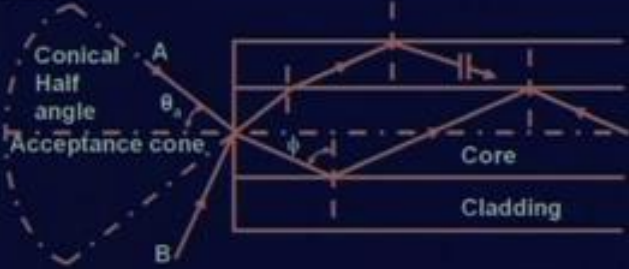

Fig. 2 The acceptance angle θ_a when launching light into an optical fibre.
- The geometry concerned with launching a light ray into an optical fibre is shown in Fig. 2, which illustrates a meridional ray A at the critical angle ϕ_c within the fibre at the core-cladding interface.
Acceptance angle look like this, you see the what is the acceptance angles? What is the numerical aperture? These are the basic definitions of the optical fibre. This we will discuss in this particular lessons at the beginning of this lesson. Now, the geometry connected, concerned with launching a light ray into an optical fibre is shown in figure 2. which is which illustrates a meridional ray A at the critical angle ϕ within the fibre at the core cladding interface right, see it is you see that here if you look at...
What is the, this the figure 2 you see, it is a is a conical half angle this is the θ_c . So, θ_c is a I mean, because we must know, what is the, what is the maximum value of θ_c ? θ_c is allowed, because this face, if this is a face of the fibre. This face should be highly, polished if I fall the light in the normal directions that is, but that is not always possible. Specially, in the case of a if we use a light source as a lead light emitting diode there will be a different angle light can fall. So, I have to we must find, what is the maximum angle value of θ_c . So, that, when the light enters the core, there is a total internal reflections right. So, that we must find it, light you see, travelling like this one and some light say, if travelling like this one having the total internal reflections. This light you see, this is the more than the acceptance angles.
So, this light, we will not get the total internal reflections. So, it will be reflected within the core and it is lost. So, this is the lost I mean, this will not be transmitted, through the core, this will be lost in the cladding itself. Whereas, if I can make within this θ_c angle of incidence is within θ_c , we will find that we will get a total internal reflections, within the core of the fibre. So, we must find what is that? Let us go back again. Now, the geometry concerned, with launching a light into the, into an optical fibre is shown. In figure 2 which we have shown; which illustrates the meridional ray A, at the critical angle θ_c within the fibre at the core cladding interface. It may be observed that the, this ray enters the fibre core at an angle θ_c to the fibre axis and is refracted at the air core interface, before transmission to the core cladding interface at the critical angle right.